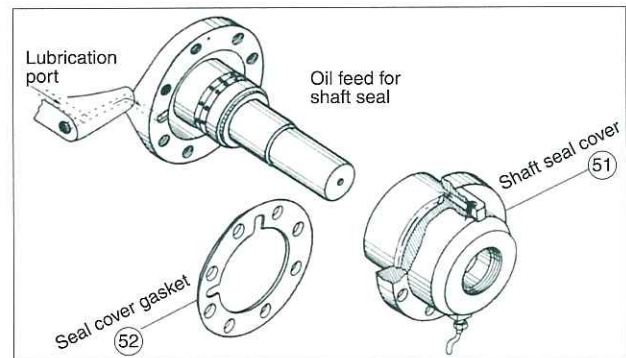

Fig. 138 Oil flow for seal
7) Fit the oiled gasket on the seal cover and correct the gasket position to match the oil holes. Lubricating oil for the seal passes through a channel in the seal cover from the top left side of the bearing cover. The seal cover must be positioned so that the oil holes are on the top left and bottom left of the seal cover when facing the compressor. (Ref. Fig.138)